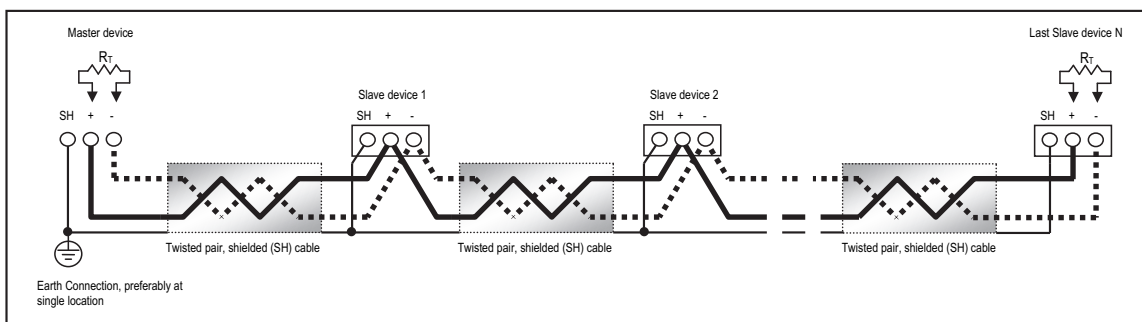

Figure 5.8: Linking Multiple Nexus® Meters in Series
- Insert the other end of the cable into the I/O module's female RS485 side port (see Figure 5.8). The connectors fit only one way into the ports.
1. Connect the + and - terminals on the Nexus® meter to the + and - terminals of the female RS485 port. Connect the shield to the shield (S) terminal. The (S) terminal on the Nexus® meter is used to reference the meter's port to the same potential as the source. It is not an earth-ground connection. **You must also connect the shield to earth-ground at one point. Vous devez également connecter l'écran à la terre à un moment donné.**